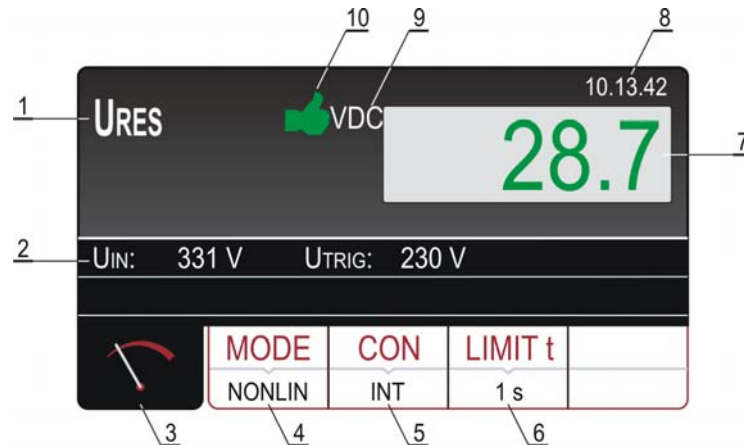
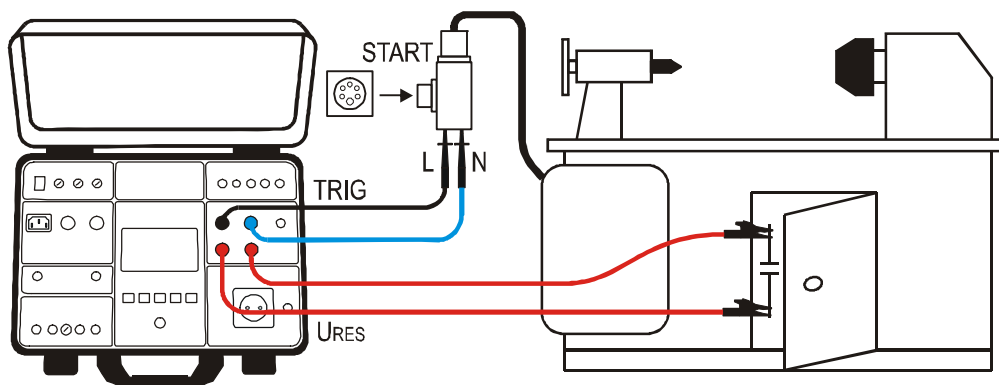

Figure 33: Display with URES test result
Figure 34: Connection of test leads in URES INT measurement on 1P/3P plugged machines
- 7) READY, DISCONNECT UUT message will appear when U_{TRIG} voltage within required range $100 \div 460 \text{ V AC}$ is present. Carry out the measurement by disconnecting UUT. Disconnection of UUT according to the figure 33 means disconnection of multiple plug adapter. Disconnection of UUT according to the figure 34 means turning off mains switch.